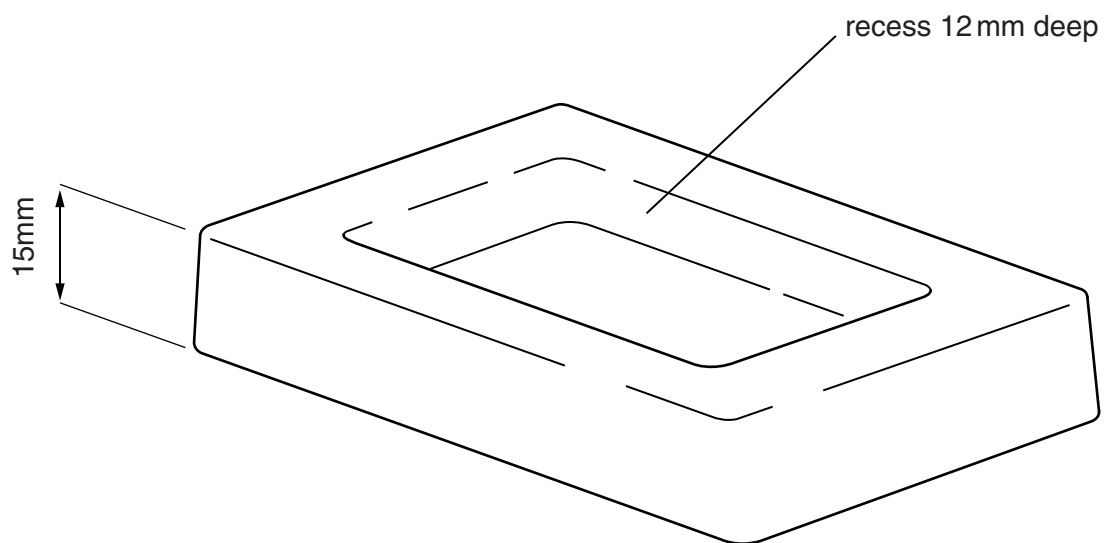

Fig. 6
19 Fig. 6 shows a simple mixing tray made from vacuum formed High Impact Polystyrene (HIPS).
- (b) Use sketches and notes to show the design of the mould needed to vacuum form the mixing tray shown in Fig. 6.